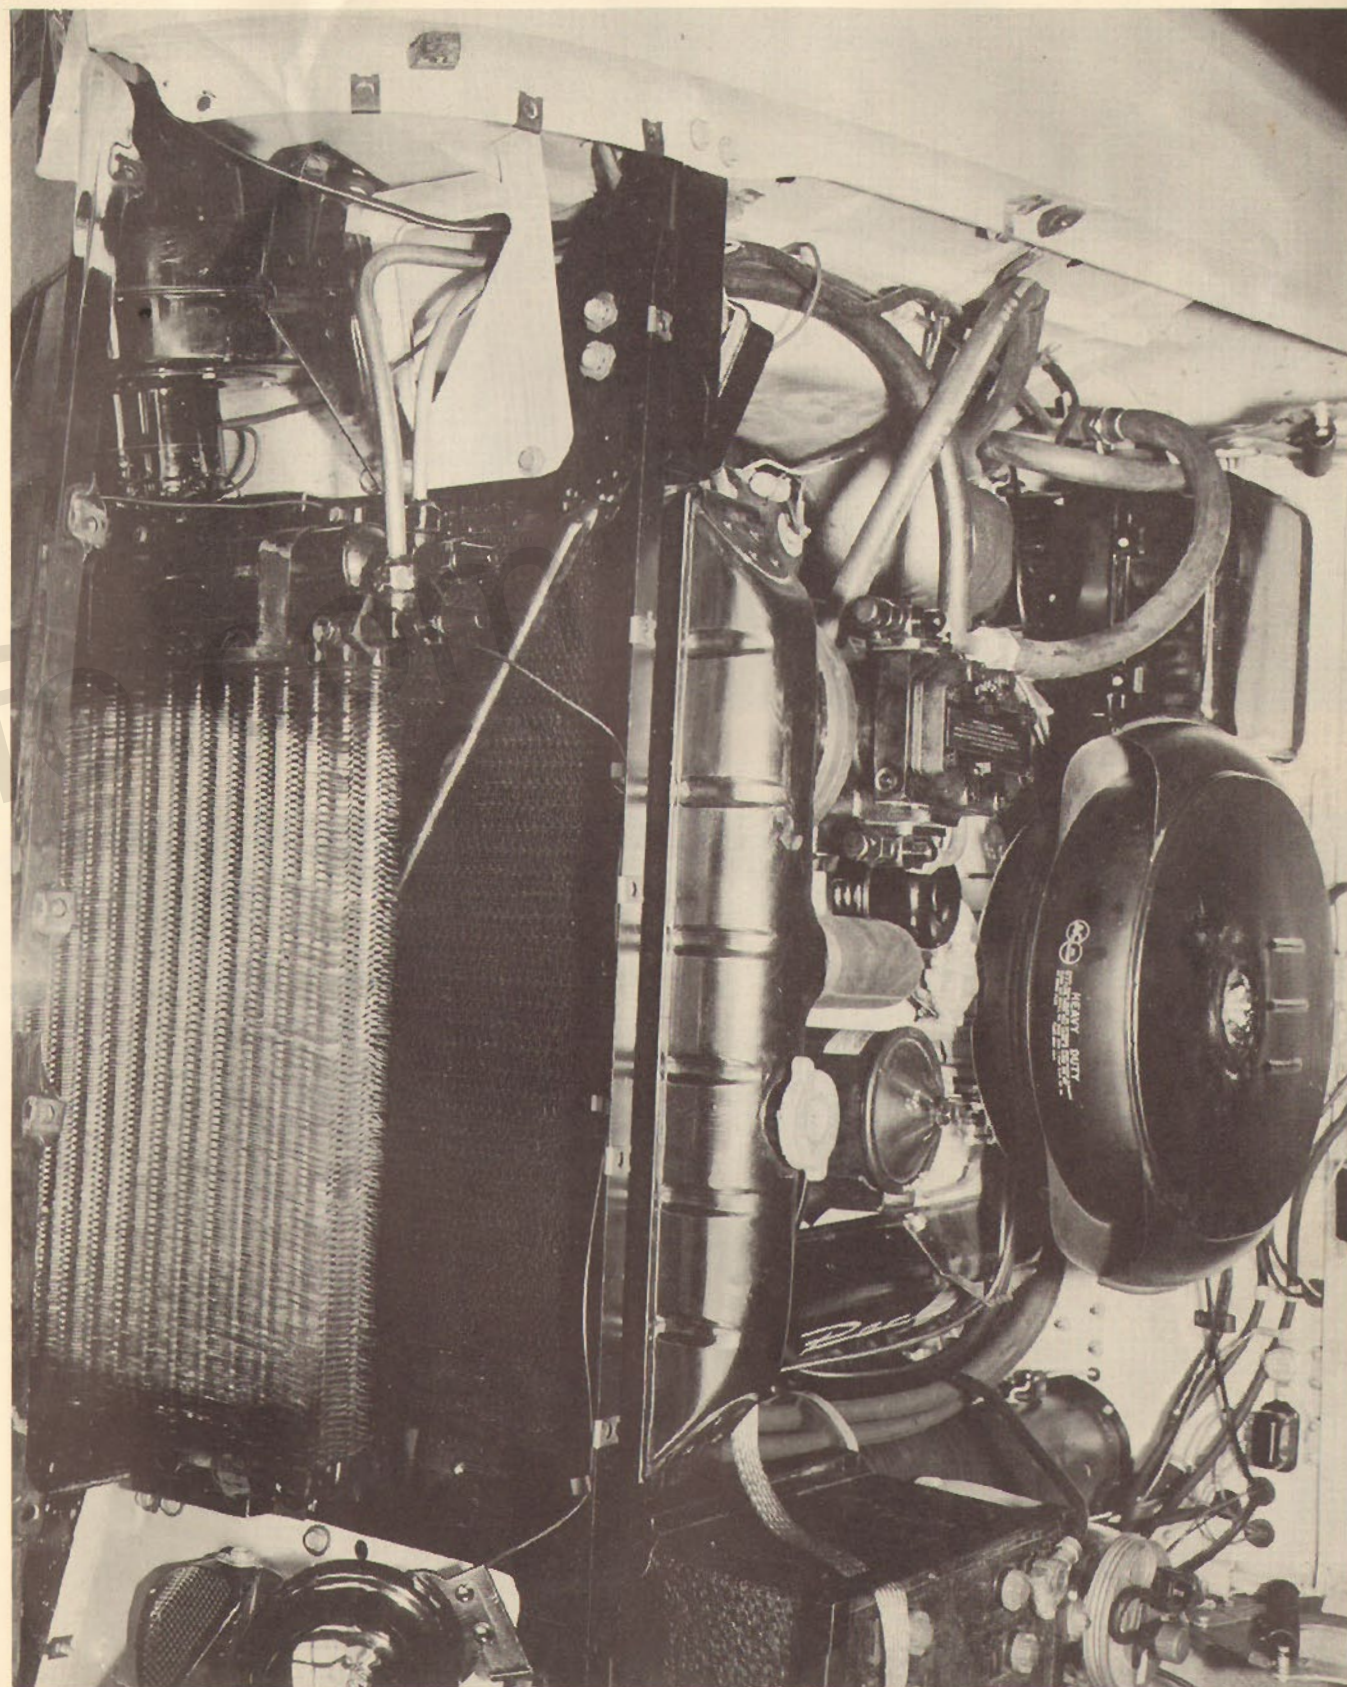

FIG. 3
4. Condenser Mounting: It is necessary to rotate the left horn on its bracket as shown in Fig. 3. Remount the right horn on the splash pan with two 1/4" x 3/4" cap screws, lockwashers and hex nuts. Attach condenser mounting brackets #225V305 to condenser with four 1/4" x 3/4" cap screws, lockwashers and hex nuts. With brackets attached, place condenser in position as shown in Fig. 3 and mark location of holes for mounting the condenser to the radiator yoke. Note: Be sure that the condenser is low enough for the valves to clear the radiator cowling. Attach the condenser with four 1/4" x 3/4" cap screws, lockwashers and hex nuts. Install radiator, connect hoses and add coolant.
5. Discharge line installation: Cut and form a piece of 1/2" tubing to connect to the condenser discharge valve and to the 1/2" rubber freon hose (Fig. 3). Make up another piece of 1/2" tubing to connect this freon hose to the discharge service valve on the compressor.